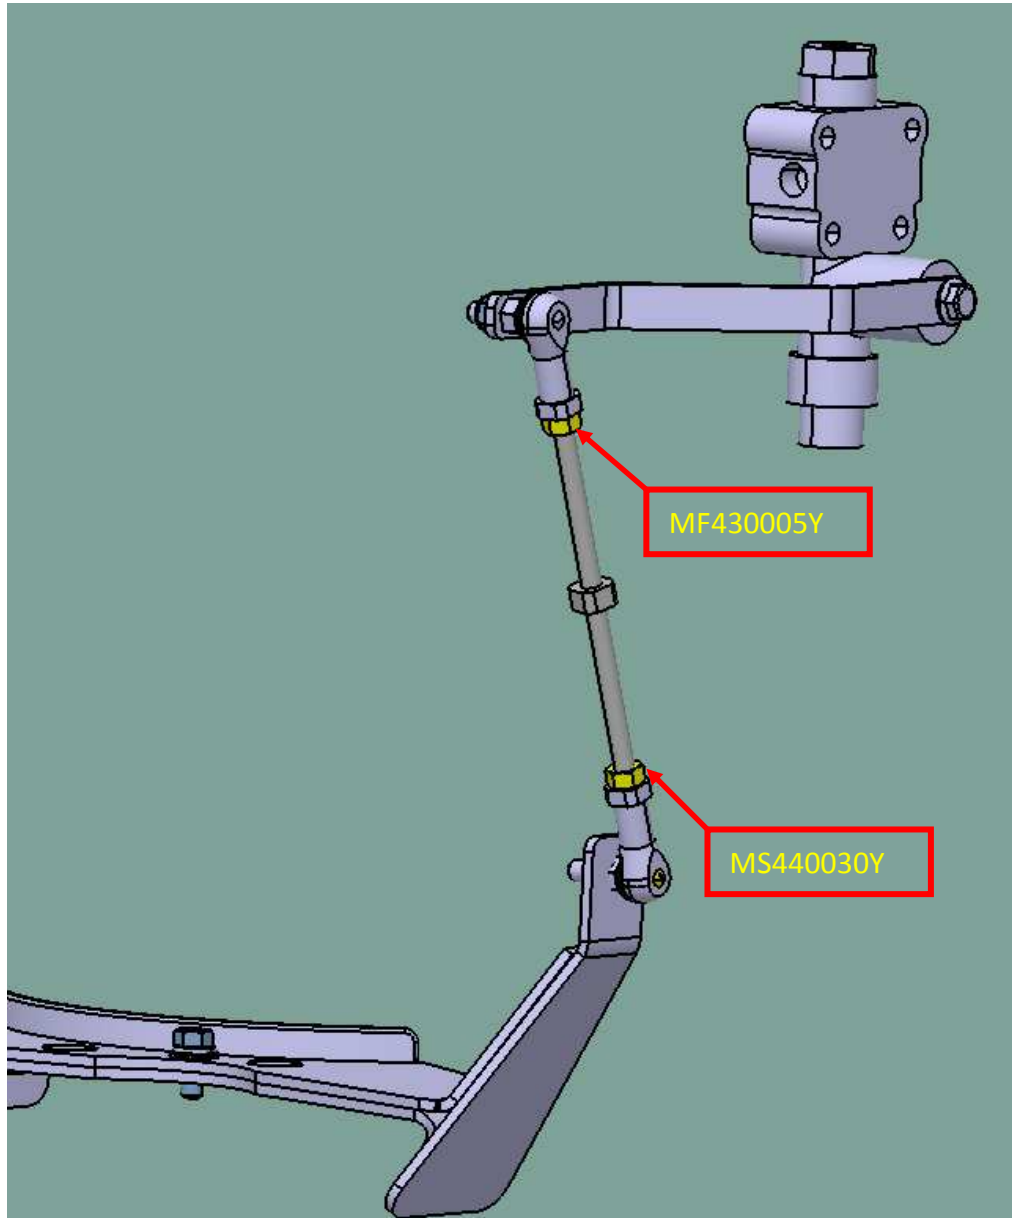

Figure-8
Step 8: Adjust the body height by means of rotating leveling rod CCW or CW. See "Figure-8"